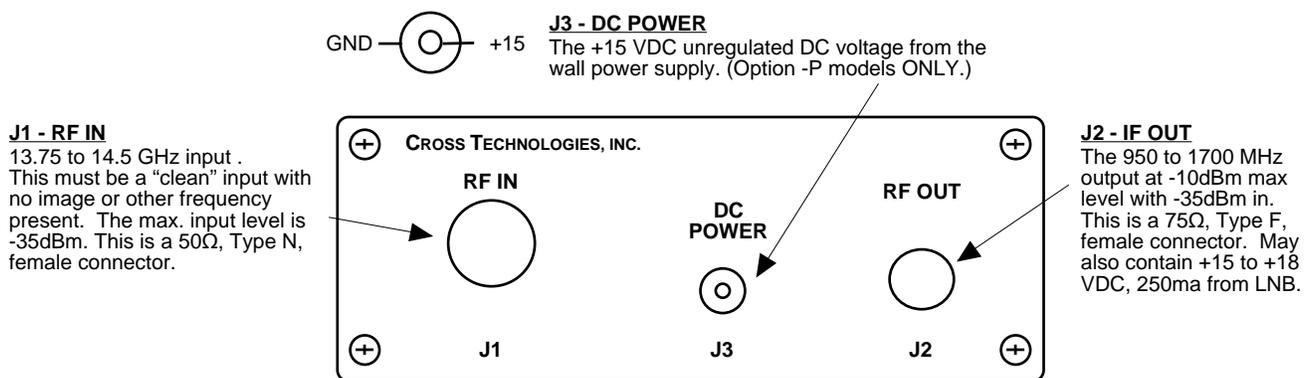

FIGURE 2.3 Model 2009-138 Rear Panel Inputs and Outputs
Figure 2.3 shows the input and output signals to the 2009-138.
1. For **-P** models, connect one end of the Wall Power Supply to the 2009-138 DC Power In, J3, and the other end to 115 VAC, 60 Hz (Figure 2.3).
2. Connect a -35 dBm, maximum signal to RF IN, J1 (Figure 2.3).
3. Connect the IF OUT, J2, to the receiver under test (For models powered from the LNB be sure that the LNB voltage is +15 to +18 VDC, 250 mA max.) (Figure 2.3).